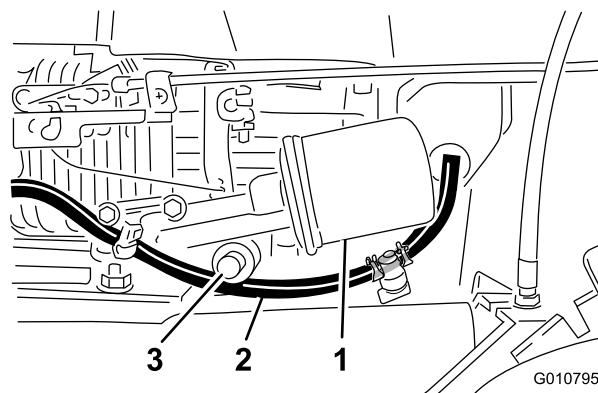

Figure 22
5. Slide the drain hose over the oil drain valve (Figure 22).
Replace the oil filter (Figure 22) after every 100 operating hours or yearly, whichever comes first.